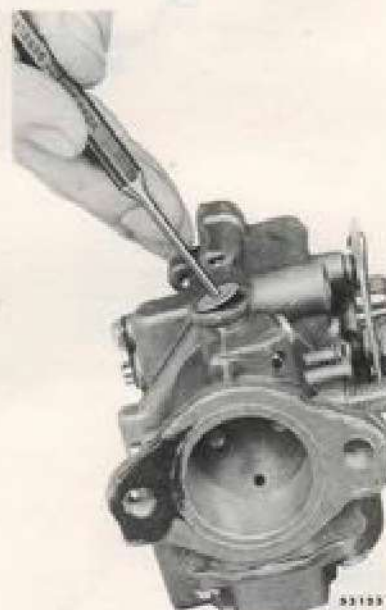

Figure 3-15. Removing Core Plug
If necessary, remove core plug to clean out off idle speed orifice holes. See Figure 3-15.
b. If leakage persists, drill a 1/8 inch (3 mm) hole through the center of the core plug to a depth of not more than 1/16 inch (2 mm) below its surface. With a punch carefully pry out the core plug. See Figure 3-15.